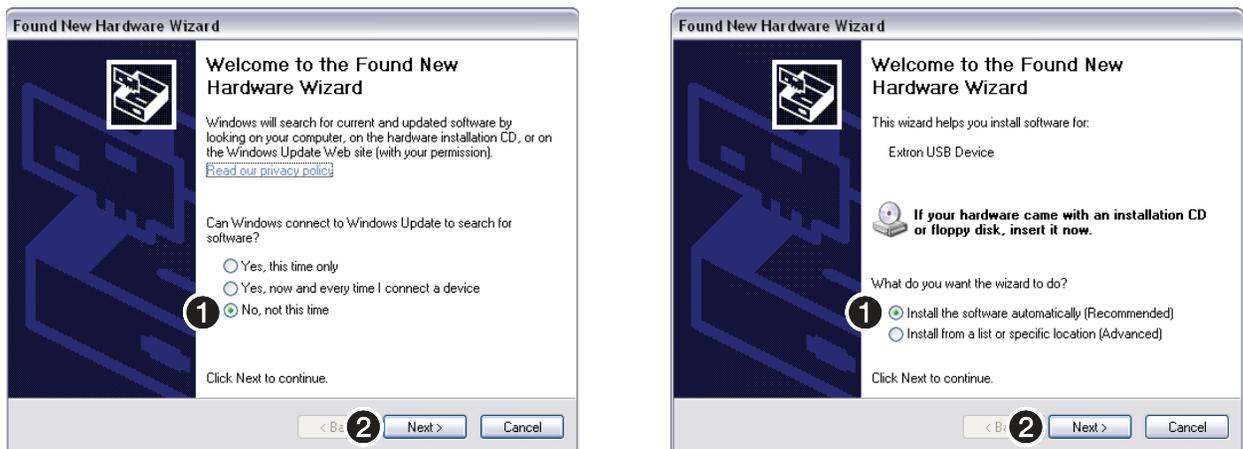

Figure 35. Found New Hardware Wizard
NOTE: The first time you connect to the Configuration (USB) port, the Found New Hardware Wizard opens (see figure 35) (see Activating a USB Port for the First Time on the next page).
The first time you connect to the Configuration (USB) port, the Found New Hardware Wizard opens (see figure 35 on the previous page). Activate the connected USB port for your device as follows:
1. Select **No, not this time** (figure 35, ①).
2. Click **Next** (②).
3. Select **Install the software automatically** (③).
4. Click **Next** (④).